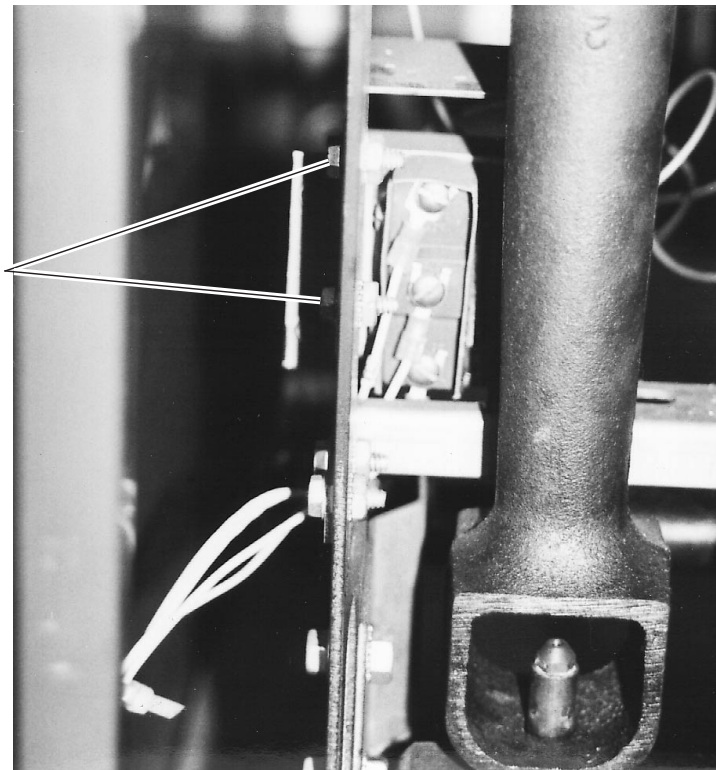

Fig. 23
4. Remove (2) #8 sheet metal screws from the bracket holding the limit in place. (Fig.23)